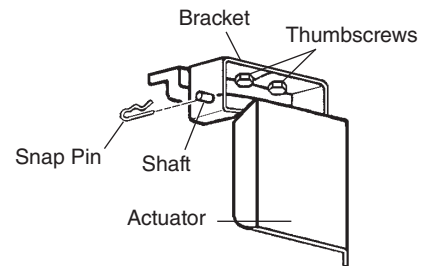

Fig. 5
- 2) In the storage bin, remove the thumbscrews attaching spout (B), then remove spout (B) and spout packing (B).
- 3) Remove the thumbscrews attaching spout (A) to the evaporator assembly and lift off spout (A) and spout packing (A), and the cylinder packing.
- 5) Remove the thumbscrews attaching the bin control assembly to the inside of the bin top panel. See Fig. 5.